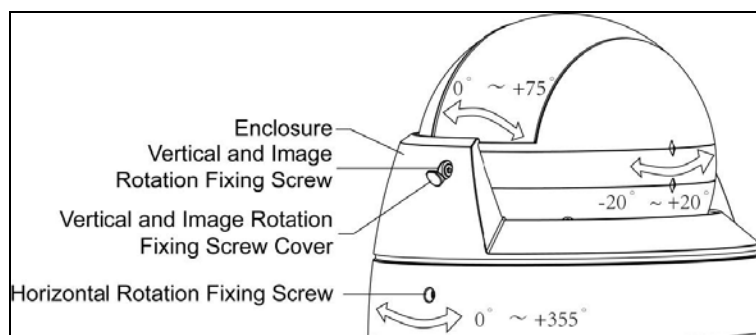

Figure 4-9
3. Loosen the vertical rotation fixing screw, refer to Figure 4-9. Then, tilt the upper camera body forward to reveal the SD Card Cover.